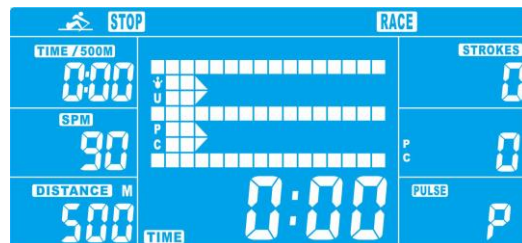

Fig. 11
b. Press UP and DOWN to set SPM (default value=10) and DISTANCE (default value=500) – Fig. 11. Press ENTER to confirm.